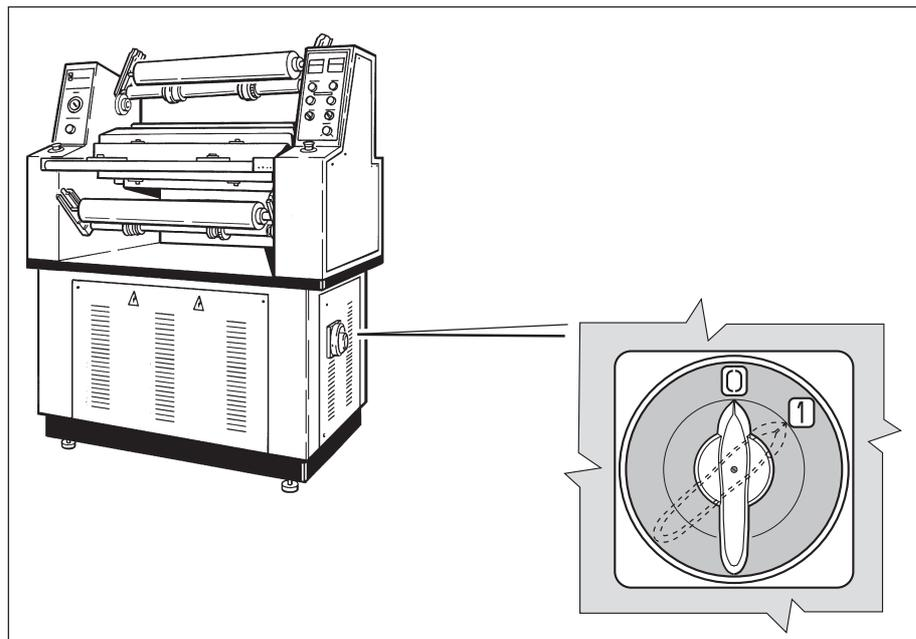

Fig. 7 - MAIN POWER SWITCH
When switched on, the warning light indicates that the main power switch (see fig. 7) is in position **I**. The machine is therefore on and ready to operate.
2.2 - MAIN POWER SWITCH (Fig. 7)